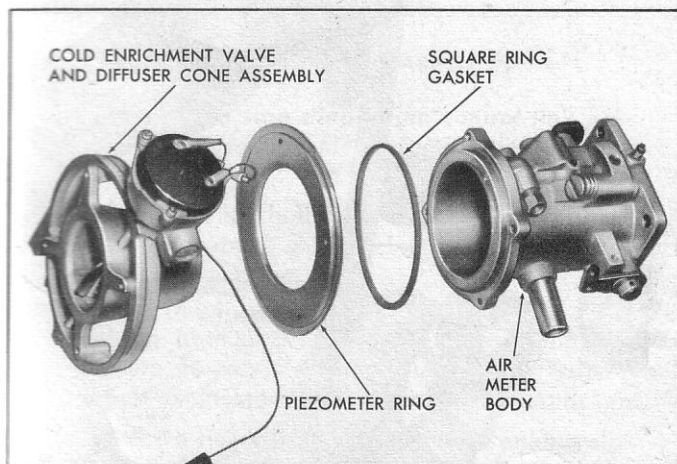

Fig. 71—Air Meter Assembly
3. Position gasket, piezometer ring and diffuser assembly on air meter, install attaching screws (fig. 71). Install fast idle cam pivot screw and linkage.